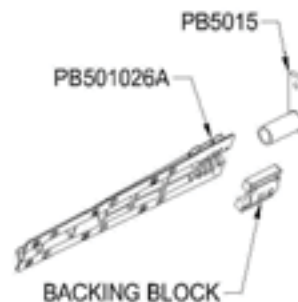

Figure 5
- Loosely clamp the bracket (part number PB501026A) and the backing block to the swivel (part number PB5015). Do not tighten down the bolts. Allow the bracket to rotate on the swivel during installation. See Figure 5.